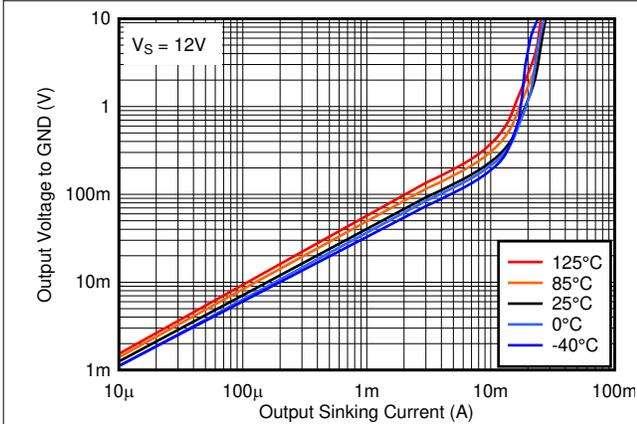

Fig 2-21. Output Low Voltage vs. Output Sinking Current at 12V
Output current is determined by the load/pull-up resistance and logic/pull-up voltage. The output current produces a output low voltage ( $V_{OL}$ ) from the comparator. In which  $V_{OL}$  is proportional to the output current. Use Figure 2-21 to determine  $V_{OL}$  based on the output current.
- $R_{CE}$  can be determine by taking the slope of Figure 2-21 in it's linear region at the desired temperature, or by dividing the  $V_{OL}$  by  $I_{out}$